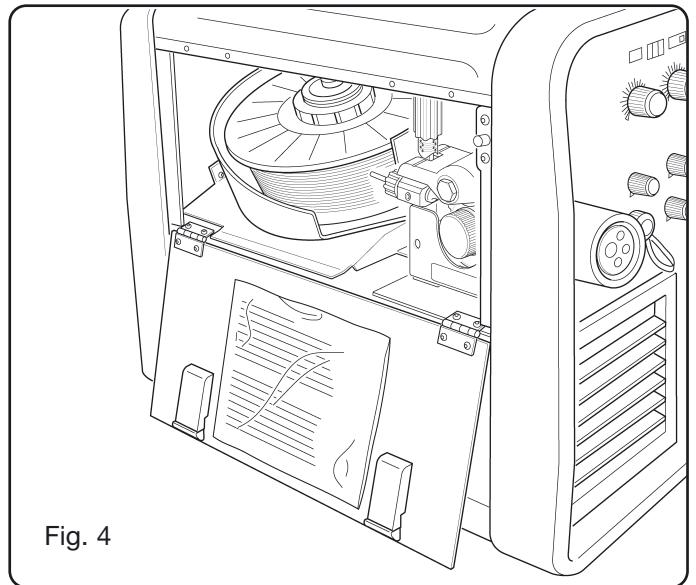

Fig. 4
- Choose the program to be used from the list provided in an envelope on the mobile side panel (Fig. 4).